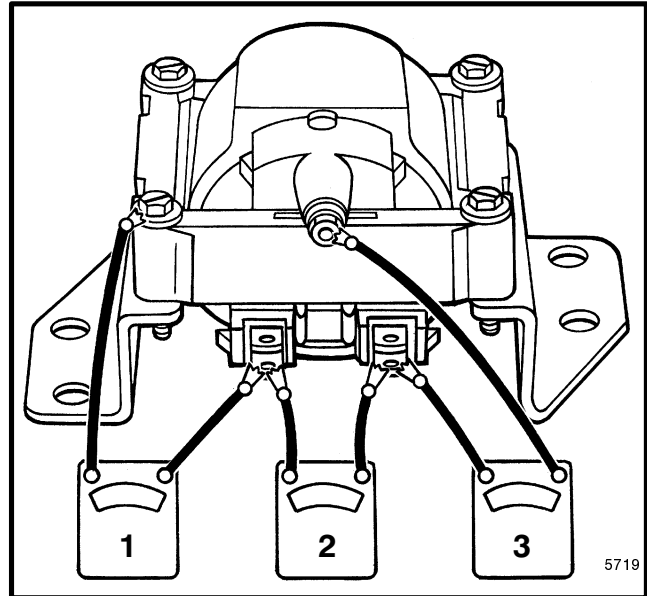

FIGURE 15. IGNITION COIL CHECKS, SOME 4 AND 6 CYLINDER ENGINES
### Separate Coil Design (See FIGURE 15.)
5. Set the ohmmeter to the high scale. Connect the ohmmeter as shown in step 1 of FIGURE 15. If the meter indication is less than infinity, install a new coil.
6. Set the ohmmeter to the low scale. Connect the ohmmeter as shown in step 2 of FIGURE 15. If the meter does not indicate zero to one ohm, install a new coil.
7. Set the ohmmeter to the middle scale. Connect the ohmmeter as shown in step 3 of FIGURE 15. If the meter indication is infinity, install a new coil.